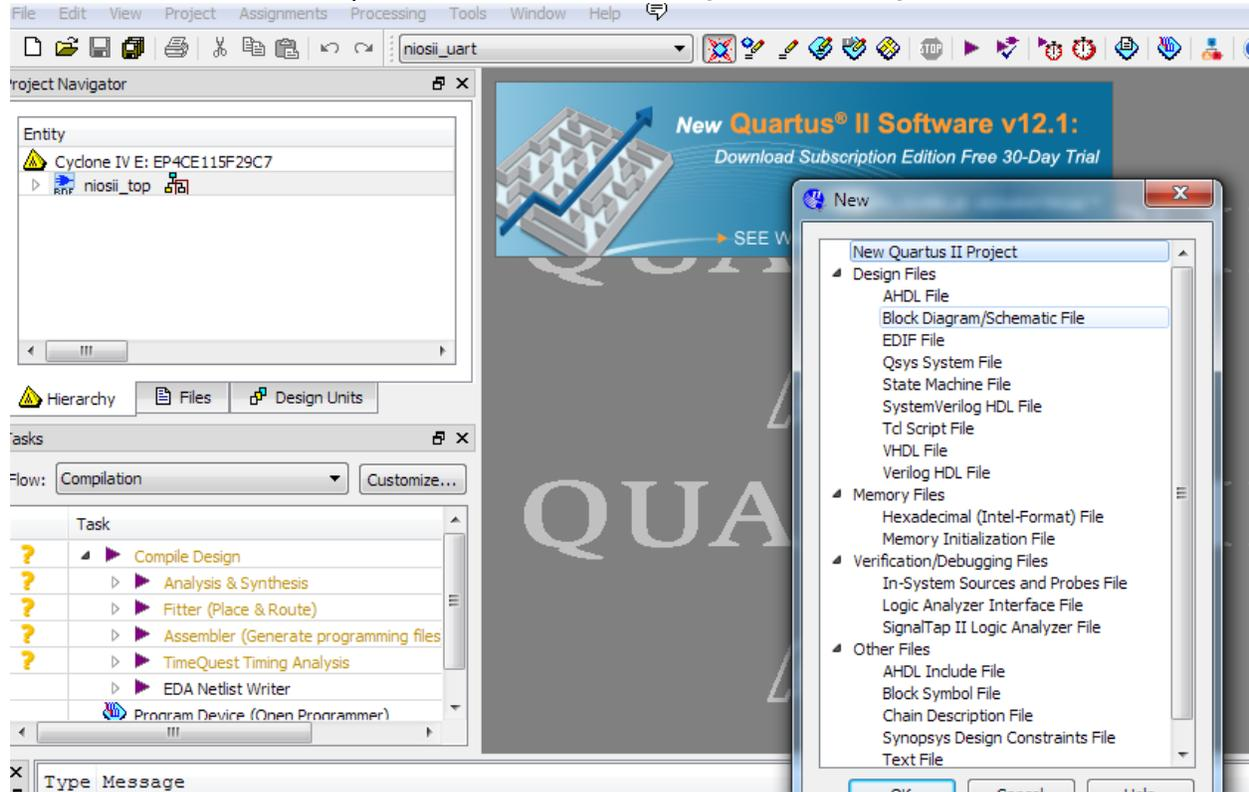
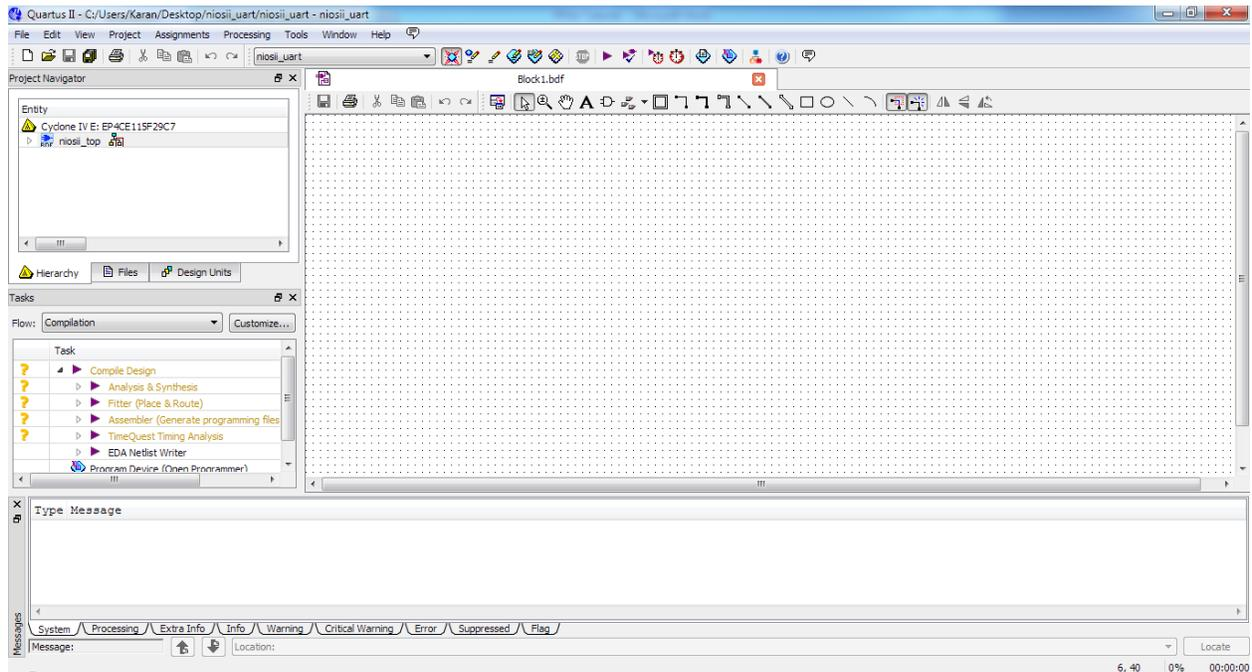

Figure 1-53 New Block Diagram File
Figure 1-54 A blank Block Diagram File
33. Choose **File > New** to open new files wizard. See Figure 1-53 and Figure 1-54.
34. Choose **New Block Diagram File** and click **OK** to return to the window as shown in Figure 1-54. Figure 1-54 show a blank Block Diagram File